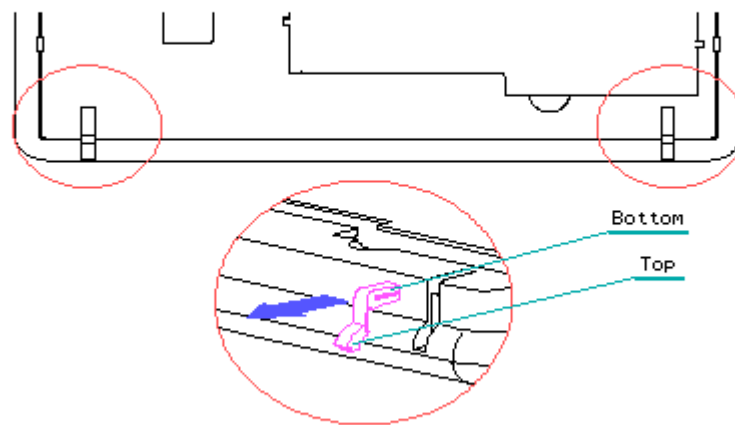

Figure 3-19. Removing a Foot
1. To remove a foot, pull out at the top of the foot (Figure 3-19) and then slide it out at the bottom.
2. To install a foot, reverse the removal procedure. Insert the foot at the bottom and push it in as far as it will go. Then press the top of the foot into place (Figure 3-19).